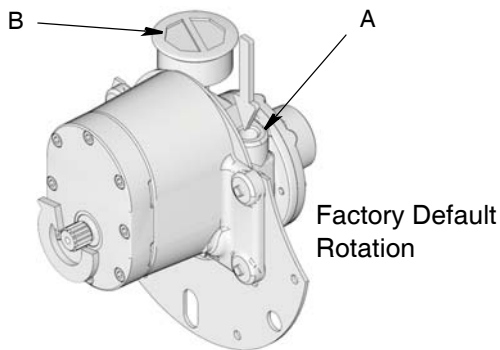

FIG. 12
NOTE: When the reel is powered the spool should wind in the direction that allows the hose to wind up onto the spool. The factory default reel configuration is counter-clockwise rotation of the motor when viewed from the motor side of the spool (end opposite the motor shaft). See FIG. 12.
- Pneumatic Motors - Reverse input and muffler parts on pneumatic motor (FIG. 12, page 23).